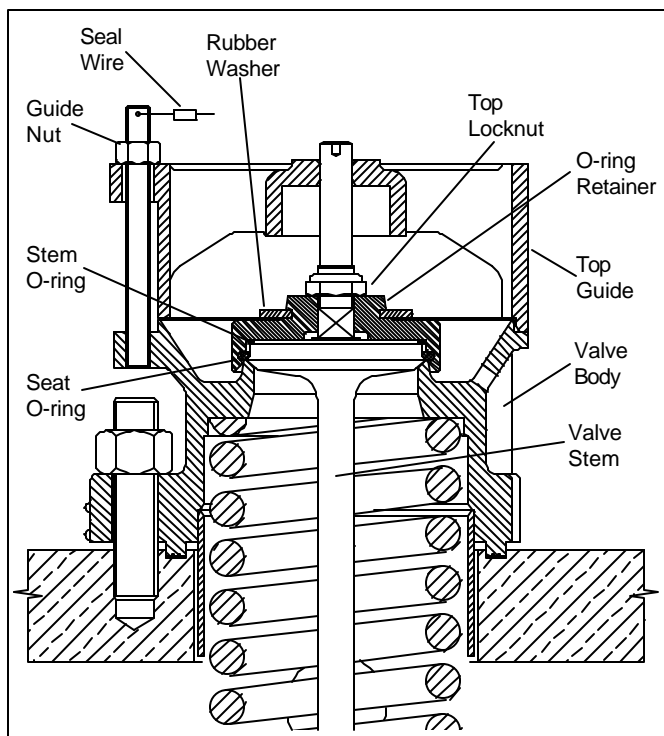

Figure 12 - Internal-style Valve Components
- 1) Remove the top seal wire (Fig. 12).